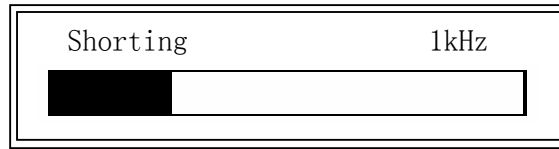

Figure 4-7. Short Correction Information
- 3) Press **ShSWP**. TH2817A will measure the short impedance (inductance and resistance) at all frequency points. Figure 4-7 shows the short correction information.